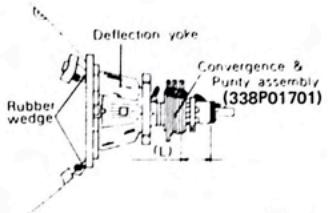

Figure 1
- (1) Remove the deflection yoke and the rubber wedges from the picture tube cone, taking care not to strike or scratch the cone surface.
- (2) Clean the remaining cement off the deflection yoke and the surface of the picture tube cone.
- (3) Put the deflection yoke on the neck of the picture tube, fully forward against the cone of the CRT.
- (4) Put the Convergence-Purity Assembly on the neck of the picture tube so that the distance between the 6-pole magnet and the base of the tube is 32 mm (1 $\frac{1}{4}$ inches), as shown in Figure 1, and hand-tighten the screw.
- (5) Demagnetize the front and sides of the picture tube with a degaussing coil.